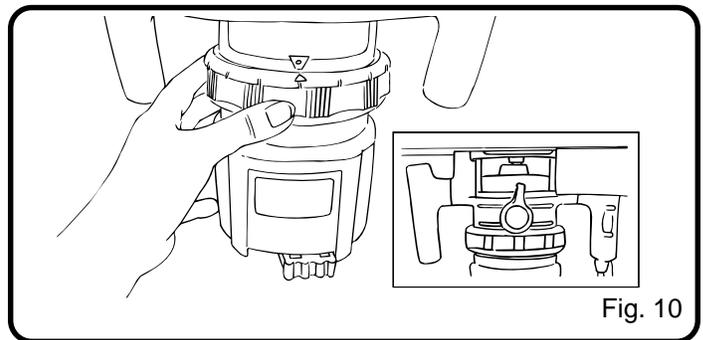

Fig. 10
- Set the cutter at zero depth of cut (flush with top or router table surface). Rotate depth indicator ring to desired depth of cut on the scale, then turn depth adjustment ring back to zero depth of cut. See Figure 10.